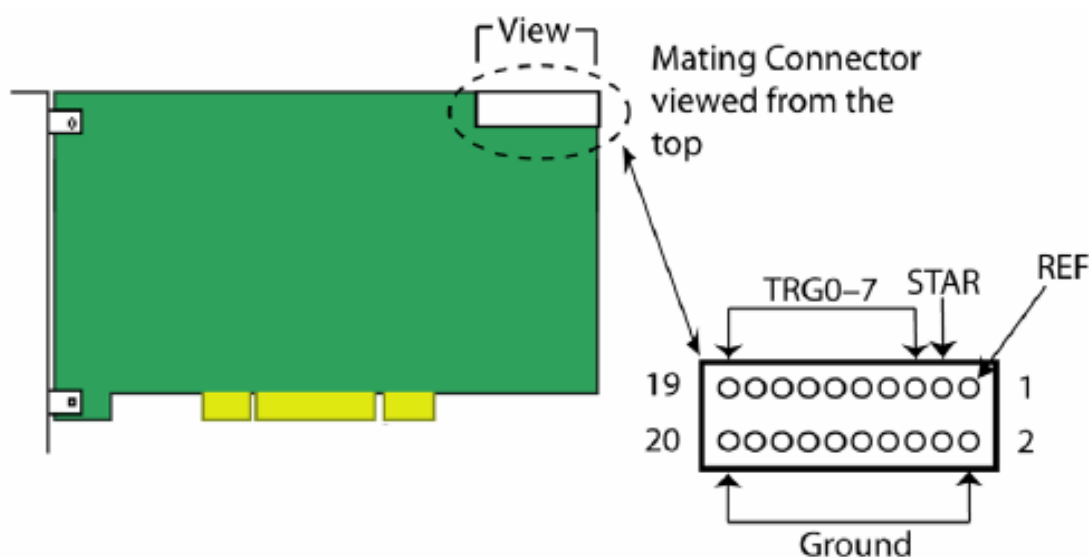

Figure 3: Mating Connector
5. Connect the boards in daisy-chain using the appropriate ribbon cable (FFSD-10-D-6.00-01-N-D4) to the mating connectors (See Figure 3) on the top of the boards. The ribbon cable is matched to the same length to achieve a zero clock delay between the boards. Table 1 shows the pin out for the mating connectors.